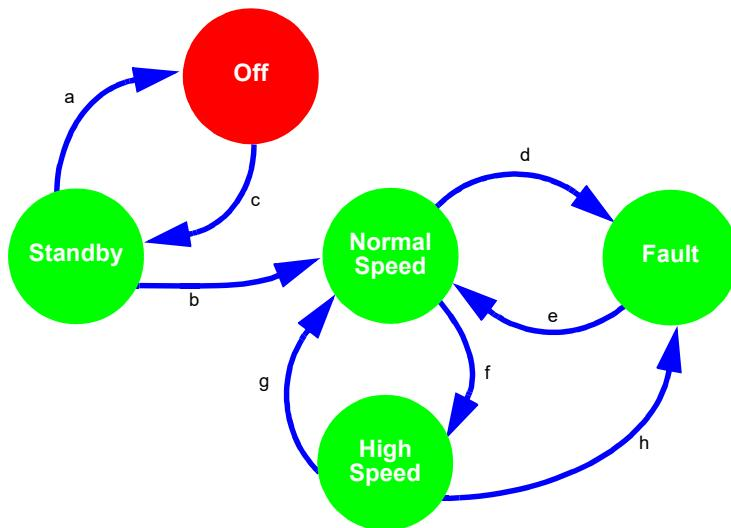
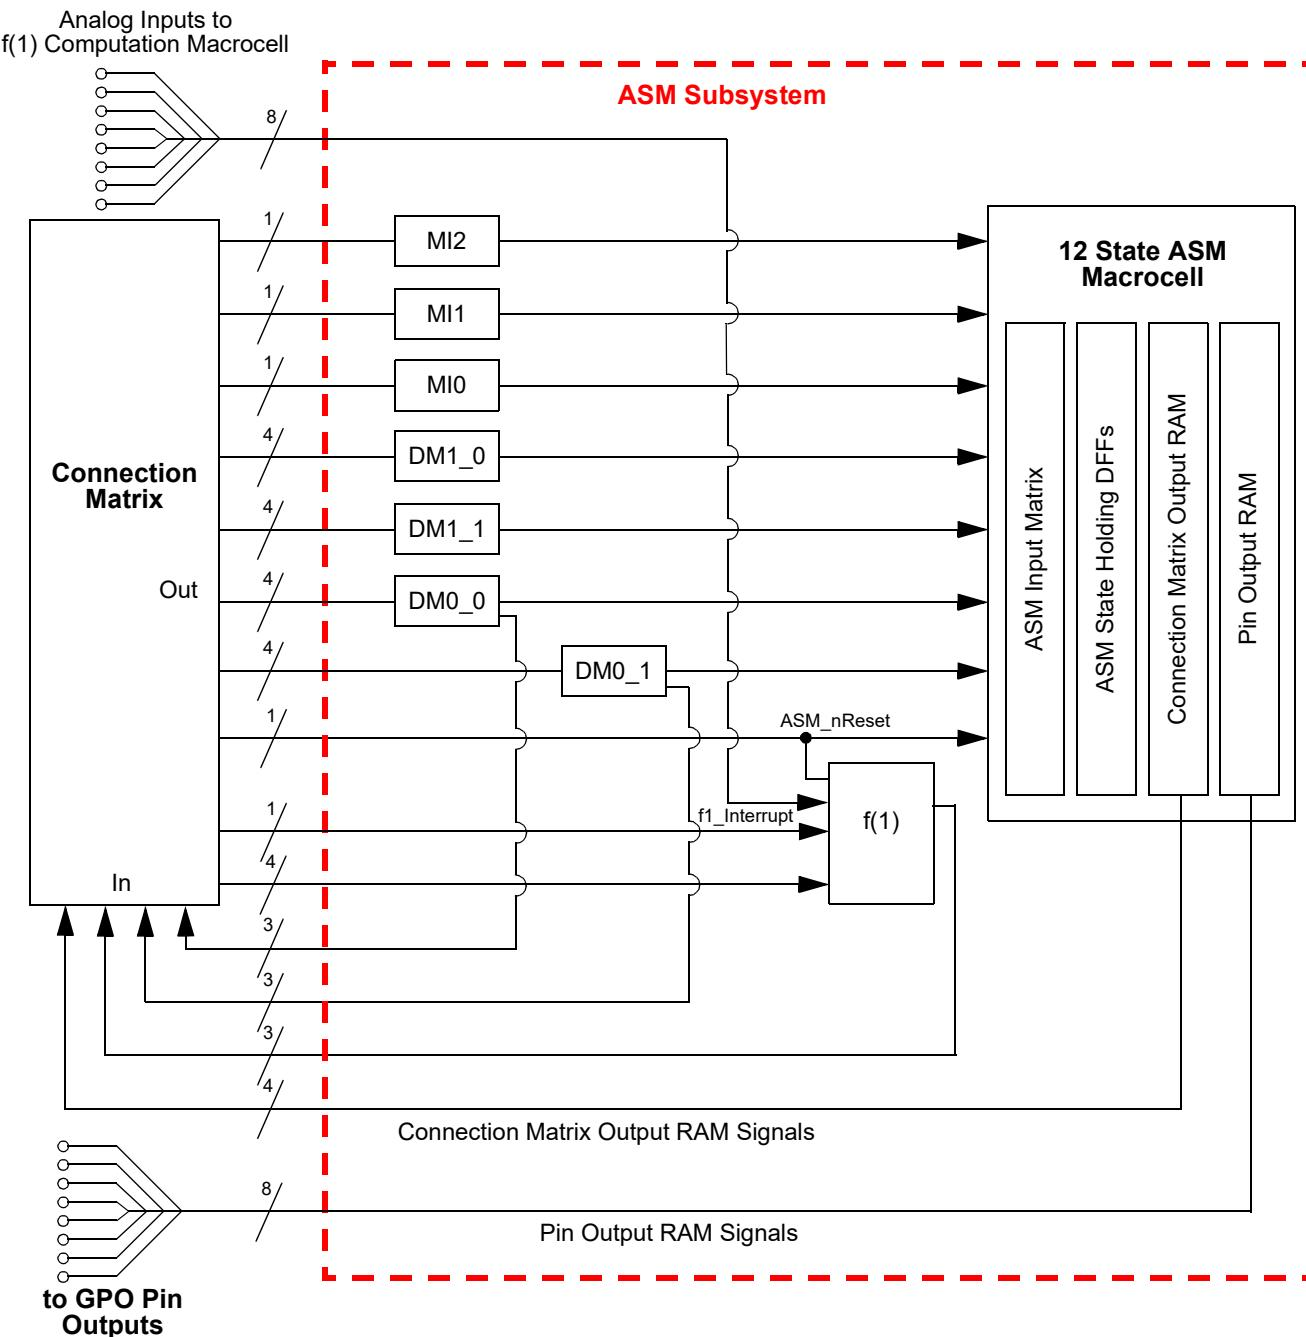

Figure 76: Asynchronous State Machine State Transitions
Figure 77: Connection Matrix to ASM Subsystem
The Asynchronous State Machine (ASM) Subsystem is designed to allow the user to create state machines with between 2 to 12 states. The user has flexibility to define the available states, the available state transitions, and the input signals (a, b, c ...) that will cause transitions from one state to another state, as shown in Figure 76.
- Dynamic Memory (DM) Macrocells – Section 16.
- f(1) Computation Macrocell – Section 17.
- Matrix Interface (MI) Macrocells Section 18.
The ASM Subsystem has a total of 25 digital input signal lines, as shown in Figure 77, which all come from the Connection Matrix outputs. Of these 25 digital input signals, 3 are user selectable inputs going directly from the Connection Matrix to the three Matrix Interface (MI) macrocells. There are a total of 16 input signals that go to the DMx_x macrocell, four per macrocell. There is 1 ASM_nReset input that is for driving a state transition in both the ASM macrocell and the f(1) Computation Macrocell to an Initial/Reset state. It is possible to use one macrocell only (MI or DM) for state to state transitions. There are 4 digital input signals coming from the Connection Matrix to the f(1) Computation Macrocell. There is also 1 dedicated Interrupt input signal to the f(1) Computation Macrocell that will halt any active operations and transfer control back to the ASM macrocell.
The ASM Subsystem has a total of 21 digital output signal lines, as shown in Figure 77. There are a total of 4 output signals which go to the Connections Matrix inputs, and from there can be routed to other internal macrocells or pins. The 4 outputs are user defined for each of the possible 12 states. There are a total of 8 output signals which go directly to the 8 GPOs. The 8 outputs are user defined for each of the possible 12 states. Each of the three macrocells, DM0_0, DM0_1 and f(1) have three output signals that go to the Connection Matrix.
The GPAK Designer development tools support user designs for the ASM Subsystem at both the physical level and logic level. Figure 76 is a representation of the user design at the logical level, and Figure 77 shows the physical resources inside the various macrocells in the ASM Subsystem. To best utilize this subsystem, the user must develop a logical representation of their desired state machine, as well as a physical mapping of the input and outputs required for the desired functionality.